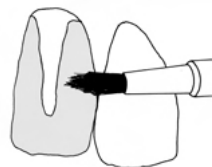

Fig. 5
11. Wipe the brush on a gauze pad to remove excess adhesive. Repeat until the entire porcelain surface has been covered with a thin, even layer. (Fig. 5)